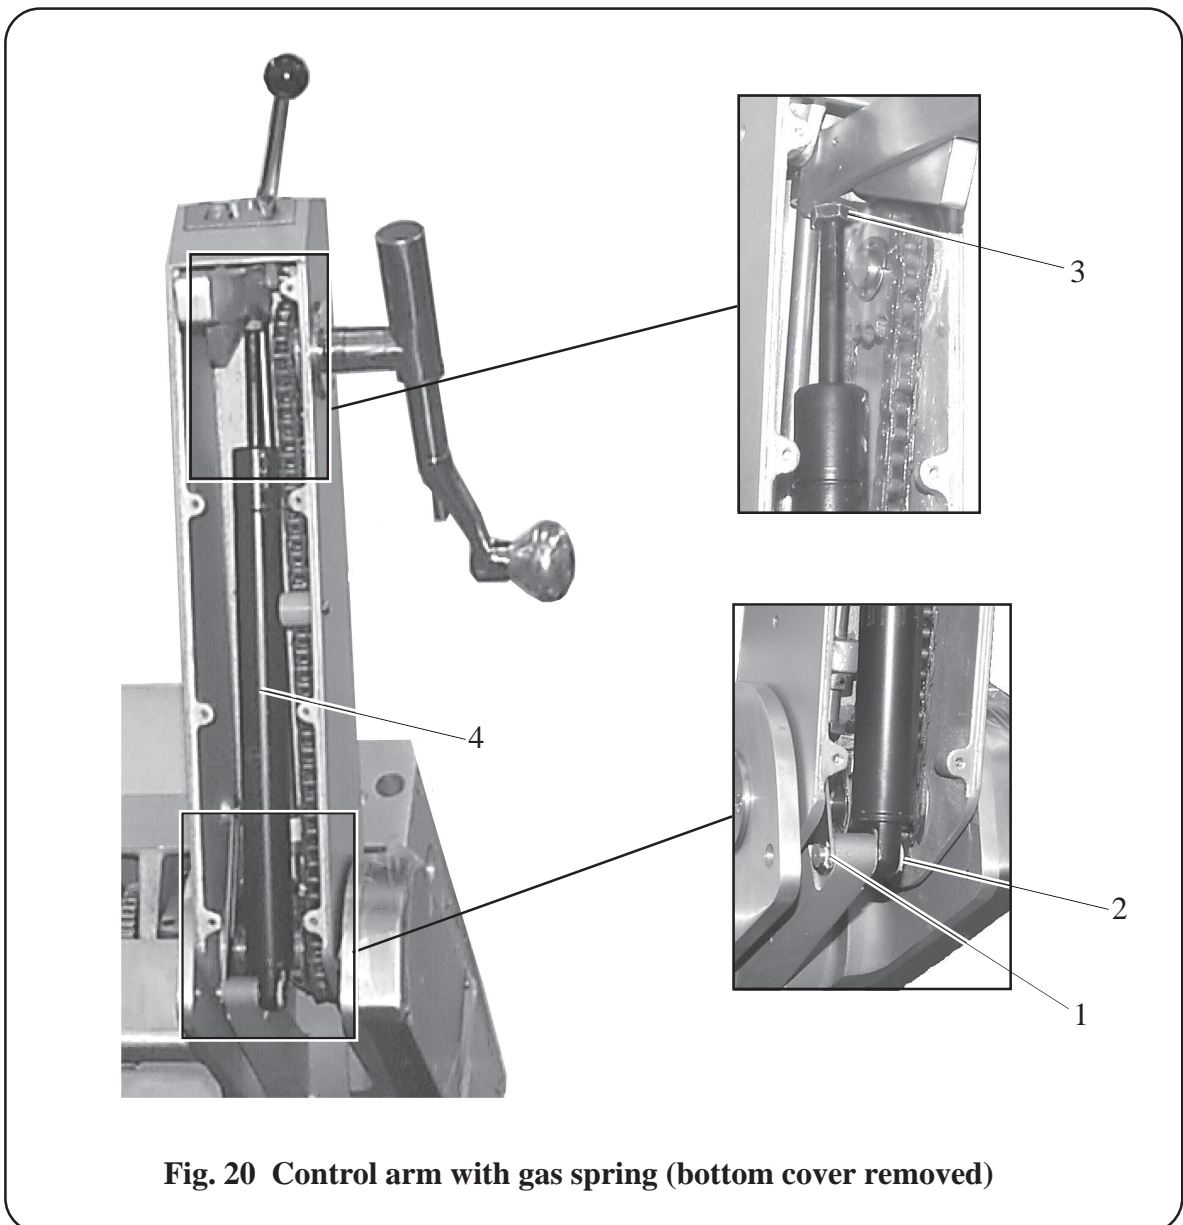

Fig. 20 Control arm with gas spring (bottom cover removed)
- i Remove the head end extended control arm bottom cover as shown in Fig. 20.
- ii Refer to Fig. 20 and remove the circlip (1) on the pivot pin (2) of the gas spring (4) and loosen the locking nut (3) on the end of the gas springs piston.